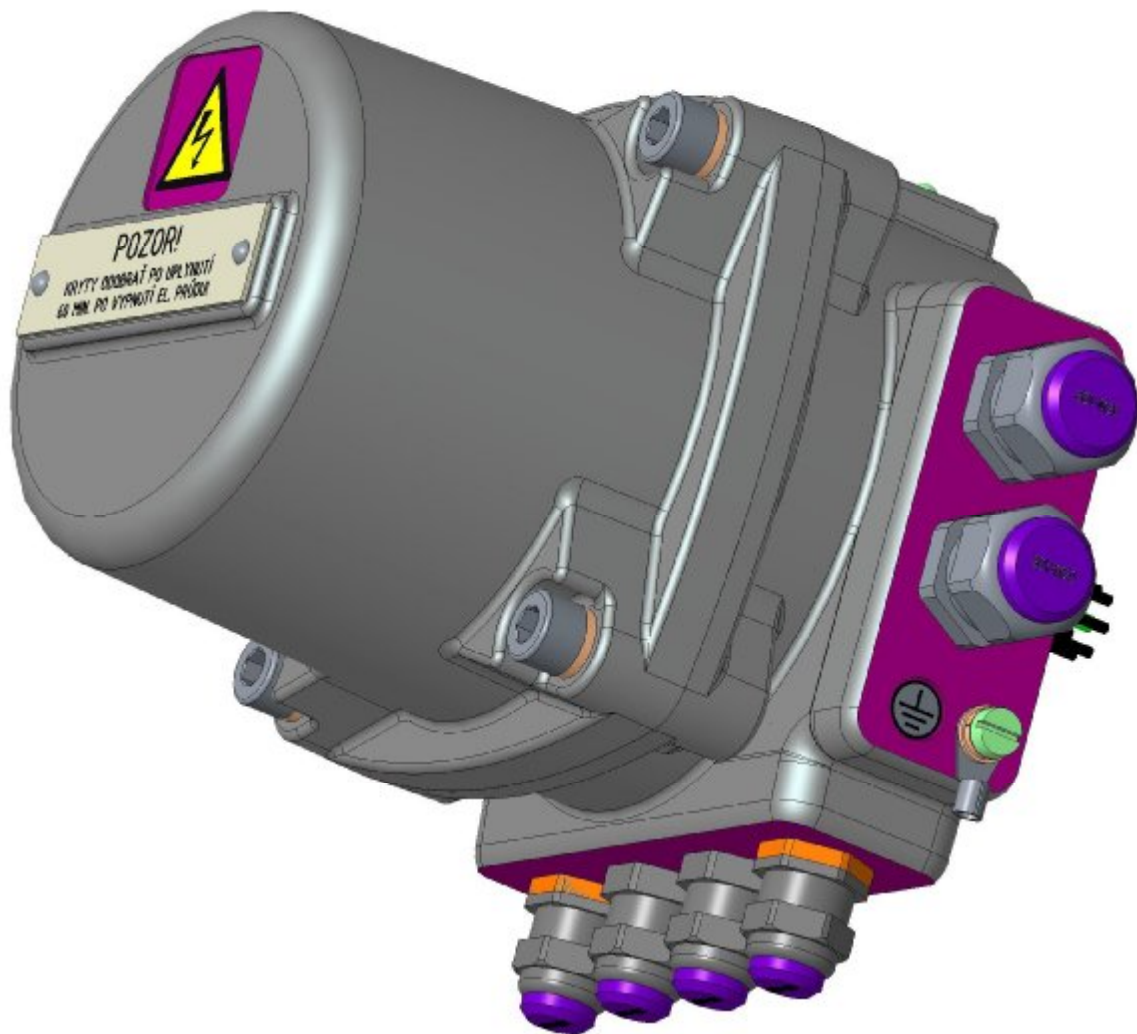

Fig. 1B
Terminal box - with protection type "e" (Fig. 1B). Is as standard equipment for EA with communication protocol Modbus / Profibus.
- Electrical connection in separate terminal box with protection type "e" (Fig. 1B)